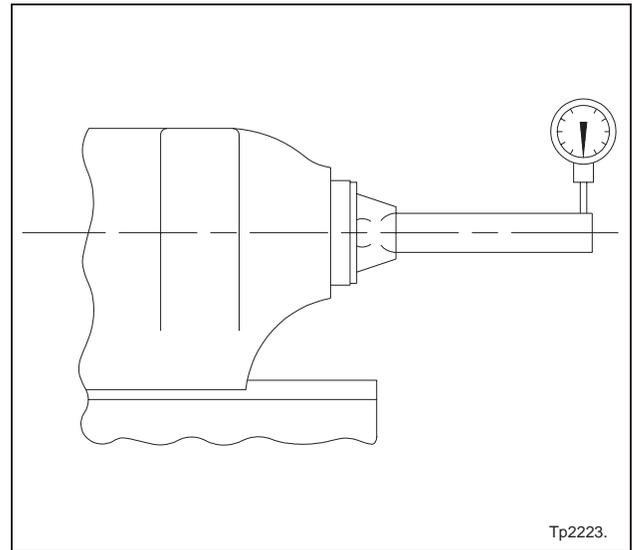
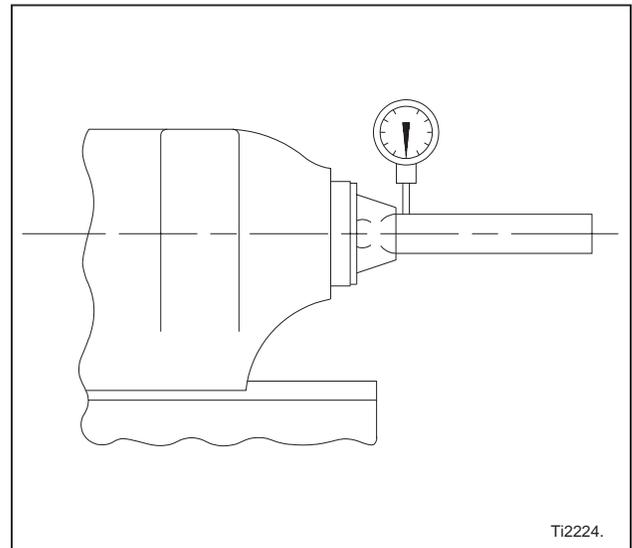

Figure 4.82 - Vertical Alignment
Figure 4.83 - Vertical Alignment
- a) Position the indicator to touch the diameter of the test arbor at the outer end. Refer to Figure 4.82 .
- d) Without moving the indicator or rotating the headstock spindle, reset the indicator dial to zero (0).
6. Move the machine carriage (Z axis) toward the headstock six (6) inches [152.4 mm] to position the indicator as shown in Figure 4.83 .